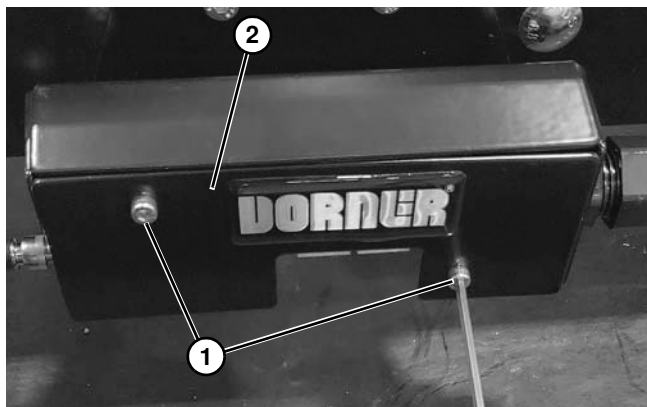

Figure 208
2. Install two screws (Figure 208, item 1) and cover (Figure 208, item 2).